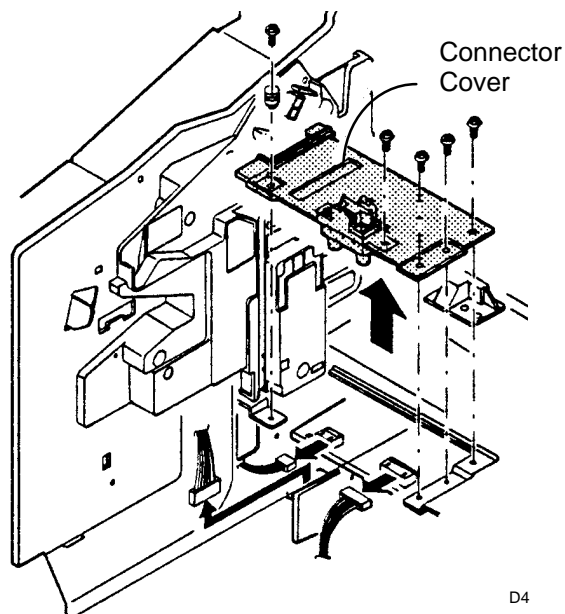

Figure 1. Removing the Connector Cover
2. (Figure 1): Remove the Connector Cover.